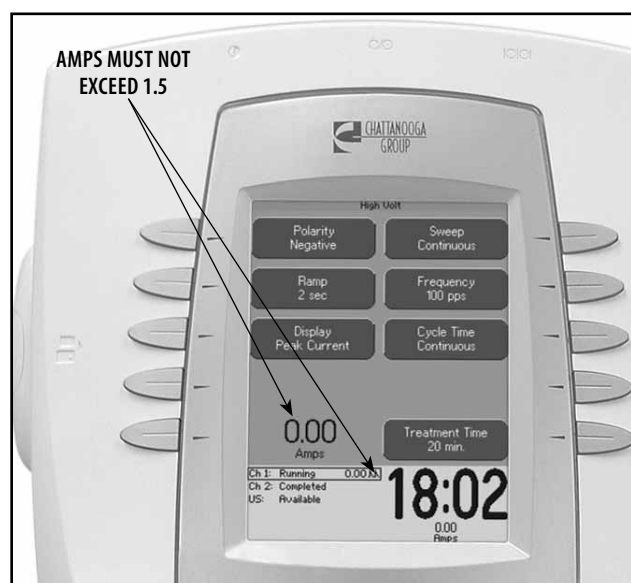

FIGURE 5.14
11. The numbers displayed for amplitude must not exceed 1.5 Amps. See Figure 5.14.